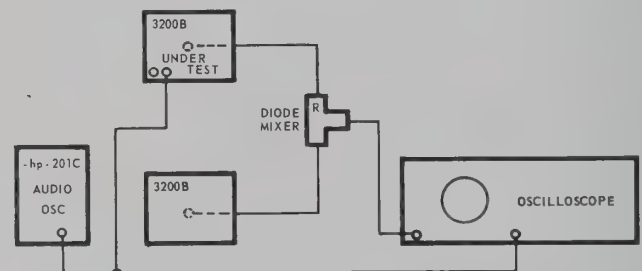

Fig. 5-1. AM Characteristics Setup
a. Connect the equipment as shown in Fig. 5-1. RF output frequency from 3200B under test is not significant.